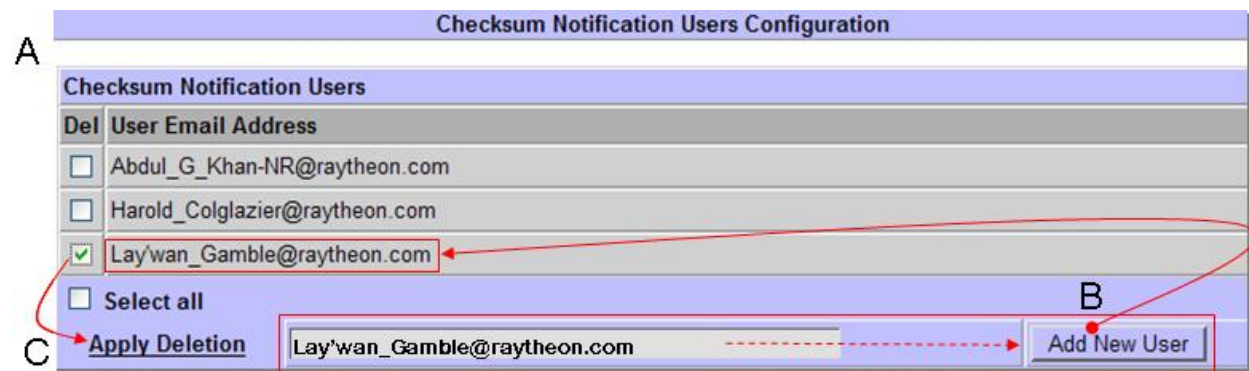

Figure 15.10-7. Checksum Notification Users Configuration Page
The **Checksum Users Configuration** page (Figure 15.10-7) allows the full-capability Operator to configure a list of email addresses of users that will receive a checksum in the form of a request. If the email address for a Distribution Notice (DN) contain one of these addresses, the distribution notice will contain checksum values for each of the distributed files.
- 2 Click **Checksum Users** submenu option to display the **Checksum Notification Users Configuration** page (Figure 15.10-7, Frame A).
- The new user email address (Figure 15.10-7, Frame B) displays on the page.
- 6 Select the **Apply Deletion** link (Figure 15.10-7, Frame C) to make change(s) and remove the User Email Address(es).